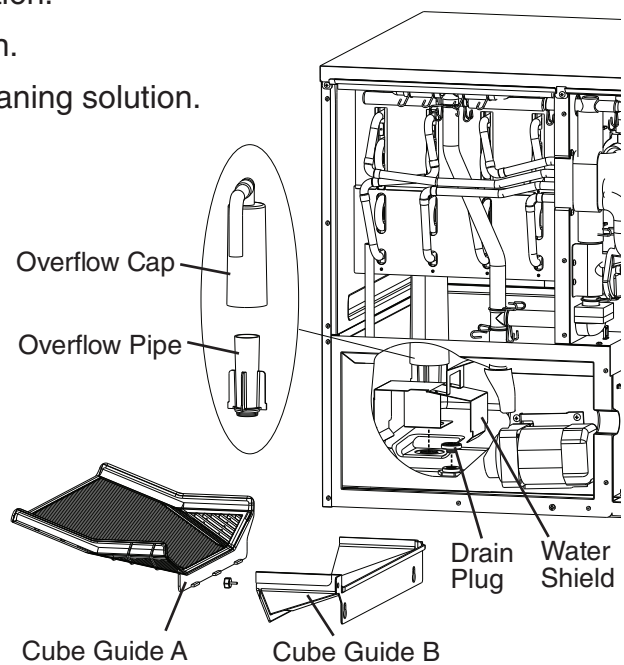

Fig. 6
- 4) Remove the front panel. Remove the insulation panel. Remove cube guide B, then remove cube guide A. See Fig. 6. Remove the overflow cap, overflow pipe, and water shield.
- 3) Remove the insulation panel. Remove cube guide B, then remove cube guide A. See Fig. 6. Remove the overflow cap, overflow pipe, and water shield.